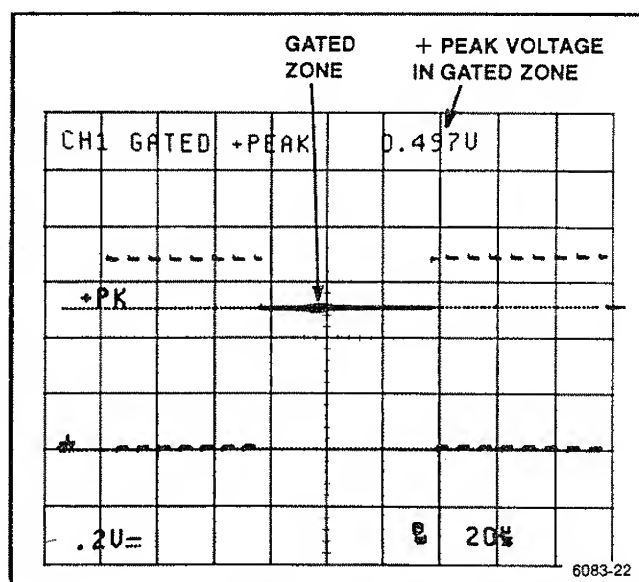

Figure 6-8. Gated voltage measurement.
3. Use the I- OR DELAY control to position the intensified zone to the area of interest on the waveform to be tracked. (See Figure 6-8.)